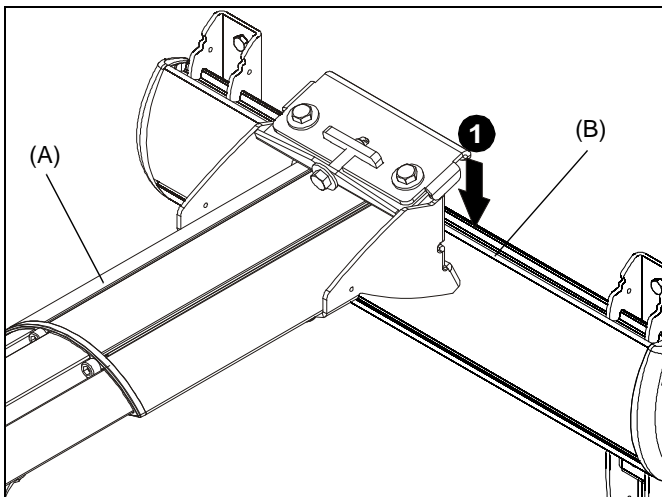

Figure 13
1. Lift short throw projector arm (A) up to wall bracket (B) and hook top plate onto cross bracket on wall bracket. (See Figure 13)